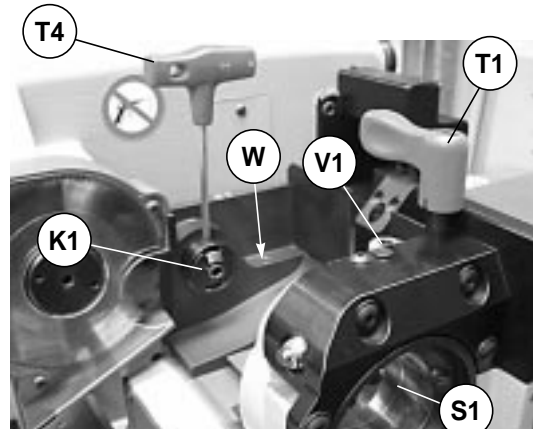

Fig. 59
Note: before starting any operation for keys with rear stops the K1 tailstock must be removed. Simply loosen the screw (W) with the wrench (T4) (fig. 59) and push the K1 tailstock to the left in order to remove it from its seat. If this is not done, an alarm will appear, even in the case of a simple reading operation: **ALARM 17**